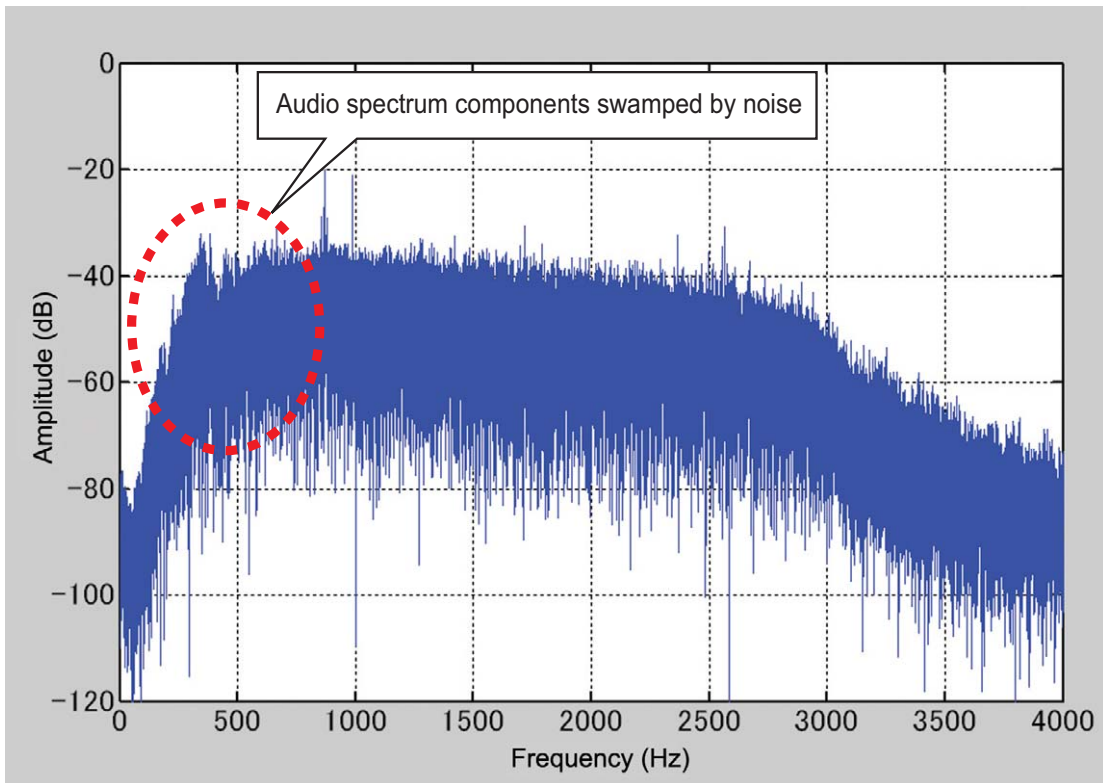
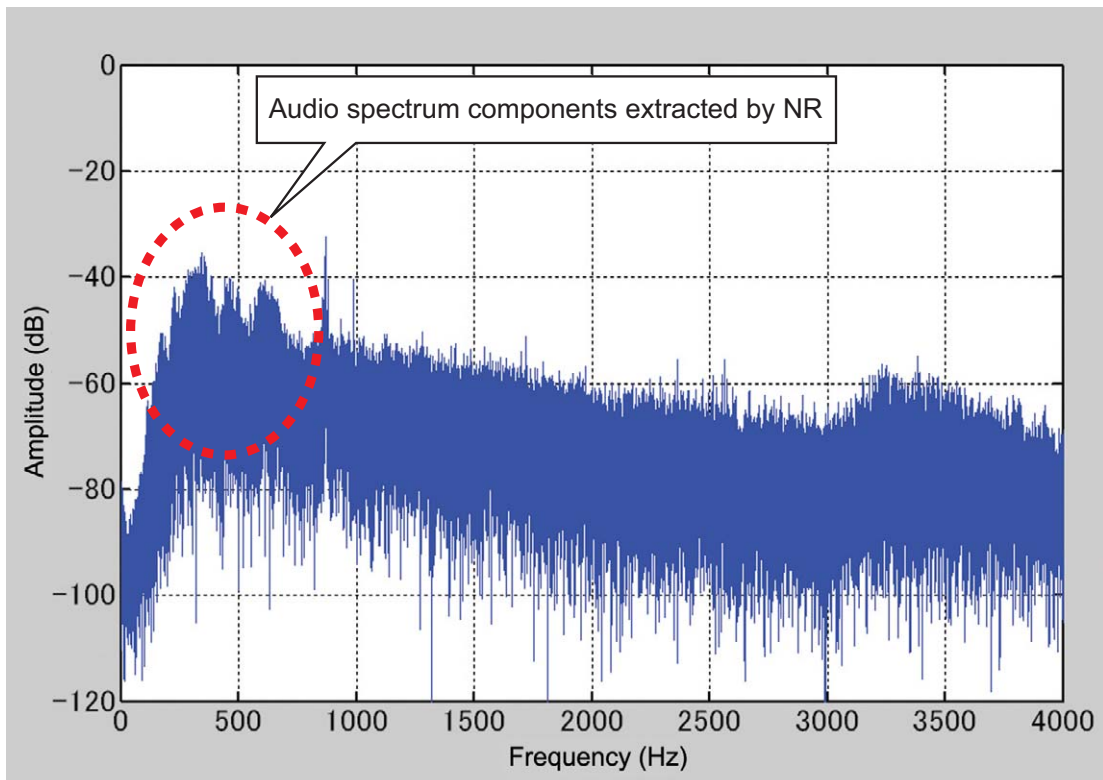

Figure 4-14 NR1 (Spectral Subtraction Method) (Inactive)
Figure 4-15 NR1 (Spectral Subtraction Method) (Active)
Note, however, since the noise estimation process of the spectral subtraction NR1 identifies any steady sound as a noise component, beat interference or a CW signal is also judged as a target of noise reduction. Meanwhile, the conventional noise reduction (based on a line enhancer) functions to emphasize beat interference or a CW signal. Because the new spectral subtraction-based NR1 is not intended for elimination of a CW signal or beat interference, you cannot expect a noticeable effect against those signals. To remove beat interference or a CW signal, use beat cancel (BC) instead. Below you can see the result of frequency analysis conducted on the receive audio containing an audio signal while NR1 is inactive in Figure 4-14 and the result while NR1 is active in Figure 4-15.